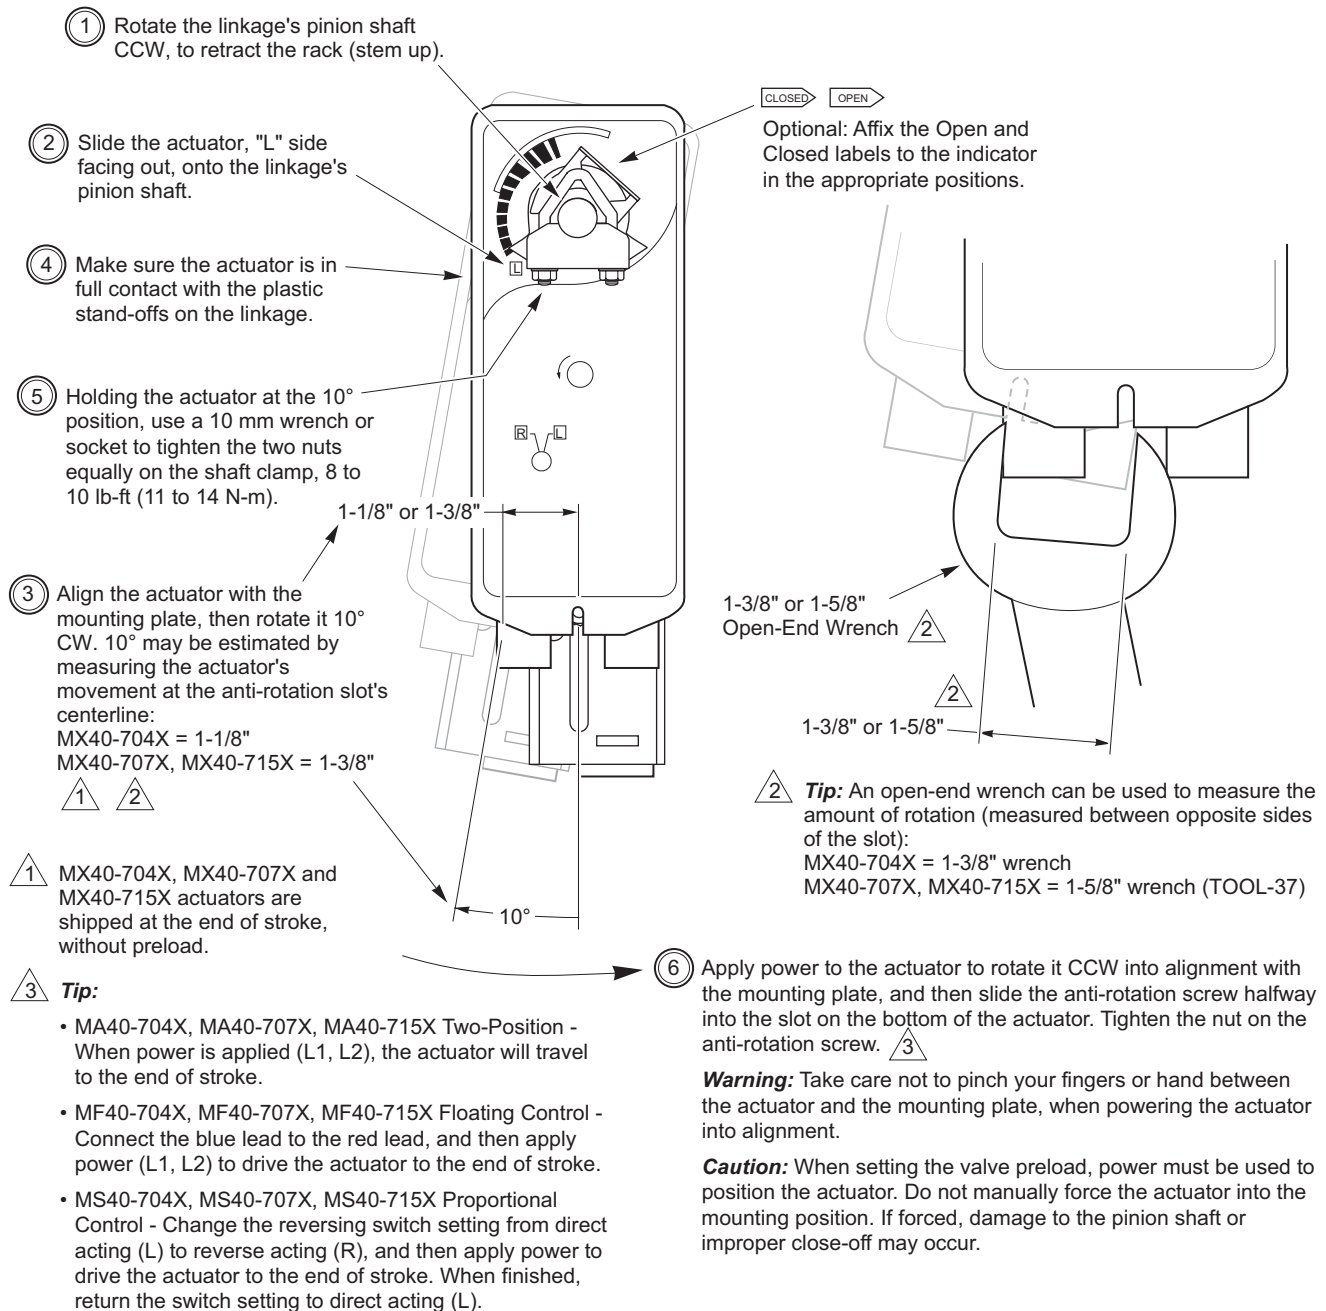

Figure-15 Mounting MX40-704X, MX40-707X, MX40-715X and Setting up Actuator/Linkage/Valve Assembly.
- a. Install the actuator onto the linkage and 3-way valve, and set up the assembly, according to Figure-15.